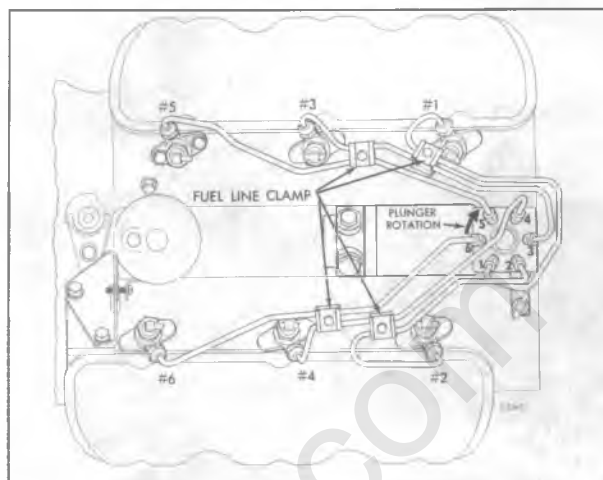

Figure 27—Fuel High Pressure Line and Clamp Installation
2. Remove the clamp assembly (fig. 27) from line being removed, then remove the high pressure line, using care not to bend line.
**IMPORTANT:** Refer to figure 27 for arrangement of fuel high pressure lines. As lines are selected and placed in respective positions, dip each end of line in fuel oil and start tube nuts at pump and injection nozzles with fingers. Each nut should be turned a minimum of four full turns before using wrenches. LINES MUST NOT BE FORCED OR BENT INTO POSITION.
2. Assemble rubber line clamps and metal backing plates with the rolled edges of backing plates crosswise of lines. Refer to figure 27.